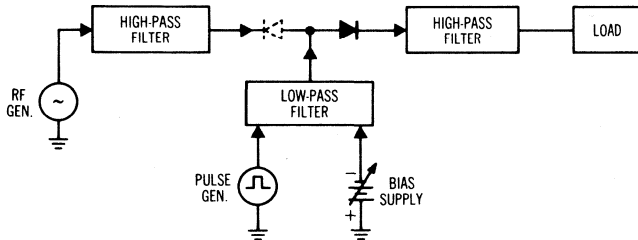

Figure 9. Block Diagram of Switching Circuit.
At intermediate values of bias, the OFF-time decreases as the bias increases while the ON-time increases to nearly twice its zero-bias value, then decreases until at approximately 20 volts it is again at its zero bias value. Faster switching can be achieved (particularly switching from high forward current to low reverse bias voltage) by driving the diode with a high pulse amplitude and a high reverse bias. High pulse and bias amplitudes may not always be available, but improved performance can be obtained by the use of a more sophisticated drive circuit. In general, such a circuit would include a low-pass filter for introducing the pulse and bias, and a high-pass filter to transmit the RF envelope while preventing the drive pulse from reaching the load. (See Figure 9.)
6. The high-pass filter on the input side must block the flow of pulse and bias currents unless a diode pair is used, as shown by the dotted lines in Figure 9. Use of a diode pair doubles the insertion loss, but also doubles the isolation and provides harmonic cancellation, which may be significant in some applications.